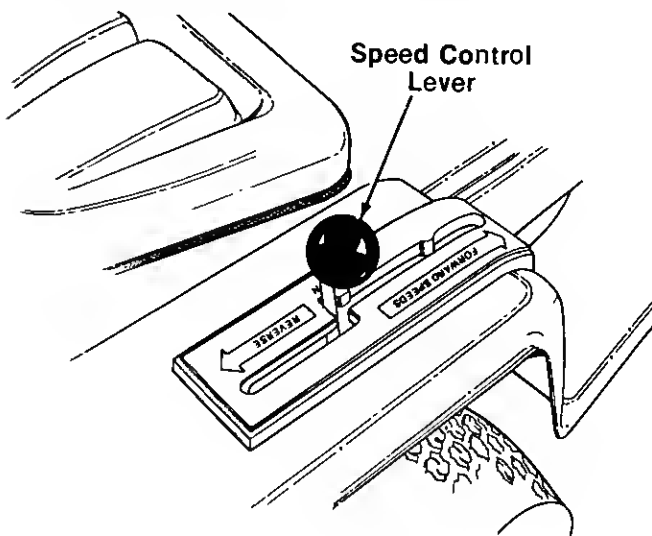

FIGURE 11.
2. Start the tractor in motion by moving the speed control lever slowly forward or rearward to desired speed. See figure 11.
If the speed control lever does not return to the neutral notch on the speed control lever guide when the brake pedal is depressed (see figure 11), make the following adjustment: